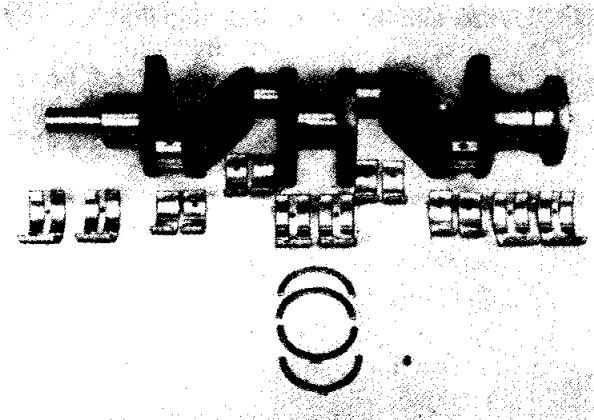

Fig. 8 **Crankshaft, Bearings and Thrust Washers.**
- (f) **The Crankshaft** (Fig. 8) is forged from molybdenum manganese steel, being provided with balance weights which are an integral part of the crankshaft throws, adjacent to the three main bearings.
3. CRANKSHAFT AND MAIN BEARINGS (Fig. 8)